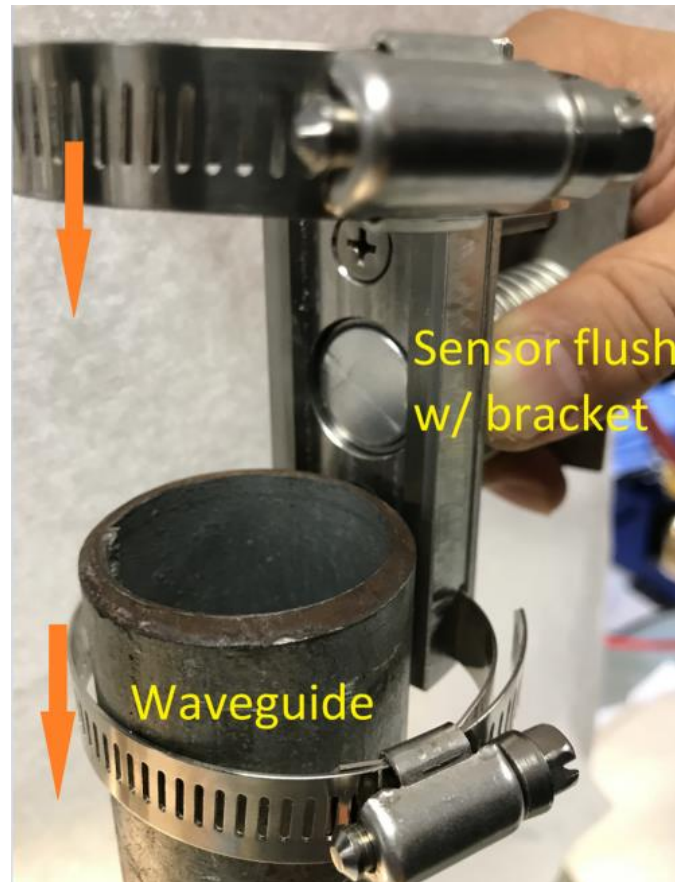

FIGURE 2-3 INSTALLING SENSOR ONTO WAVEGUIDE (W/ CLEARANCE)
20. While pulling the plunger tube away from the waveguide, lower the sensor to the area where silicone grease was applied (See Figure 2-3). **Gently** release the plunger tube so the sensor sits against the pipe with the silicone grease in between.